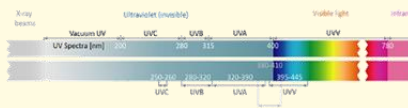

Figure 1. Reduction of organisms exposed to 3 W/m2 of UV-A
- At the intensity proposed for use in patient rooms (3 W/m2), we found that MRSA and *E. coli* were reduced by  $\geq 1.2 \log_{10}$  CFU after 8 hours of exposure (figure 1)
- Bacteriophage MS2 and Phi X147 were reduced by 1.1  $\log_{10}$  PFU and .3  $\log_{10}$  PFU respectively after 8 hours of exposure (figure 1)